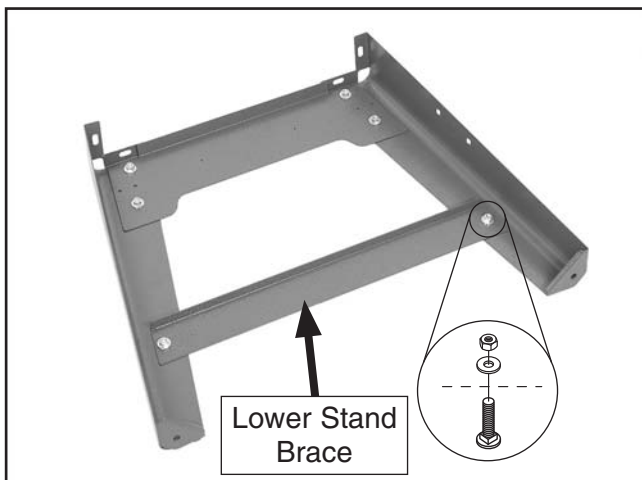

Figure 9. Lower stand brace secured to legs.
2. Attach the lower stand braces to the leg assemblies from **Step 1** with four M8-1.25 x 12 carriage bolts, 8mm flat washers, and M8-1.25 hex nuts (**Figure 9**). Just hand tighten the fasteners for this step.